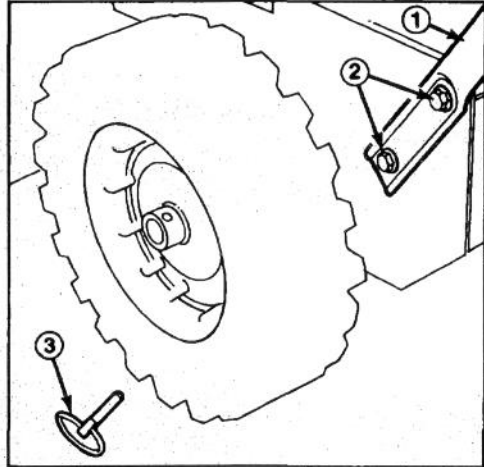

Figure 1
2. Position left handle on side of unit, align handle mount holes with holes in side plate and secure with two flange screws finger tight (Fig. 1). Repeat procedure on right side and tighten handle screws on both sides of unit.
Note: The wheel retainer pin can be removed and the wheel moved out on the axle to achieve more clearance (Fig. 1).